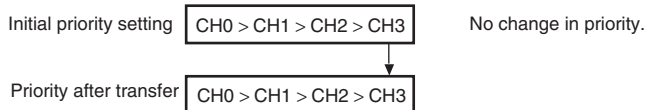

**Figure 10.3 (1) Round Robin Mode**
Figure 10.3 (2) shows the changes in priority levels when transfer requests are issued simultaneously for channels 0 and 3, and channel 1 receives a transfer request during a transfer on channel 0. The DMAC operates in the following manner under these circumstances: